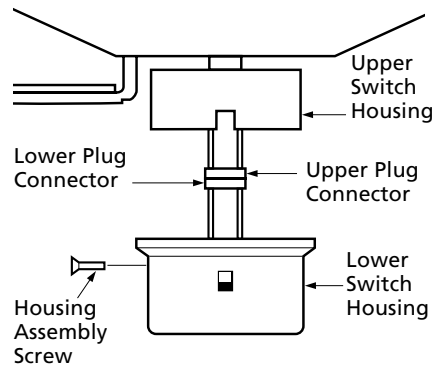

Figure 7c - Plug Connection and Lower Switch Housing Installation
1. Connect the upper plug connector from the motor to the lower plug connector in the lower switch housing assembly. See Figure 7c.
switch housing to the upper switch housing with three #6-32 x 3/8" housing assembly screws. See Figure 7c.